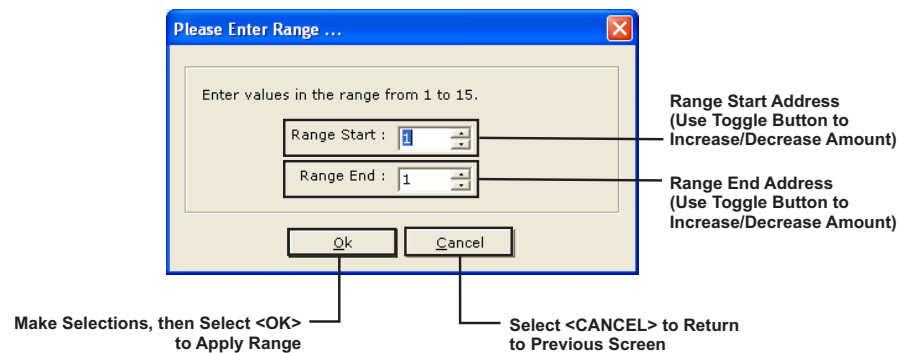

Figure 2-38. Peripheral-Devices Address-Range Selection
1. Select either the **<Add RDCM(s)>** or **<Add ATM(s)>**. Figure 2-38 displays.